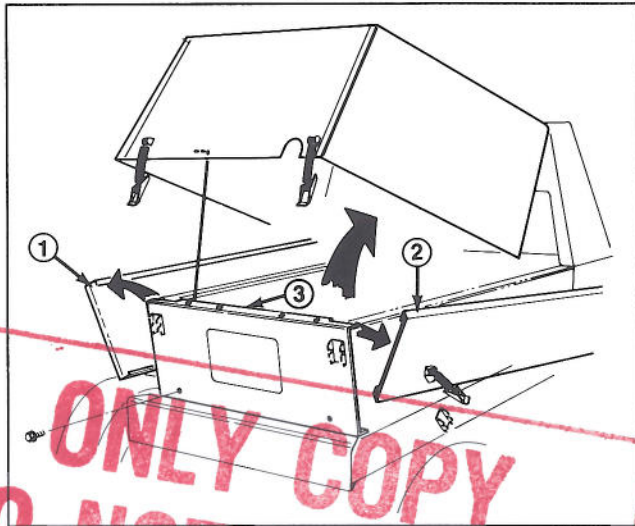

Figure 1
2. Open the hood and prop it up. Unlatch and remove left and right engine panels (Fig. 1).
3. Remove (6) flangehead screws securing rear panel to frame (Fig. 1). Set rear panel aside.